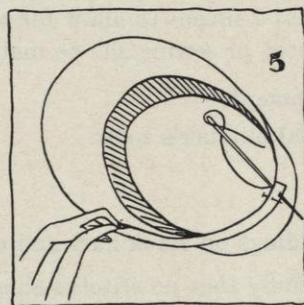

FIG. 5.
- c. Fold the ribbon over the edge so that it lies flat, and one half of it is on each side of the brim (see Figure 5).
- d. Take a tiny stitch and stick down through these same two selvages (see Section b directly above), continue through the brim and come out on the opposite two selvages, at the folded end of the ribbon (see Figure 5).